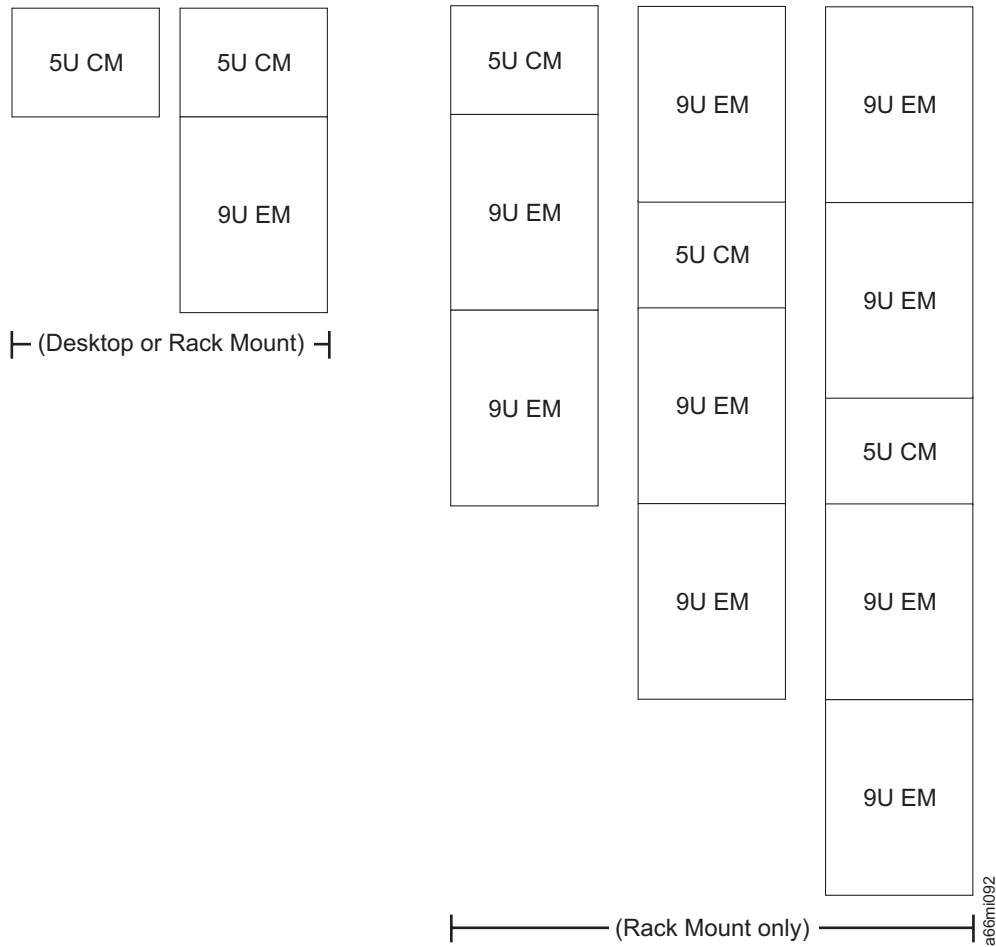

Figure 3-14. Recommended library configurations
2. Refer to Figure 3-14 on page 3-14 and determine which library module will be installed on the bottom.
Refer to Figure 3-14 on page 3-14 and select one of the recommended configurations for your library installation.